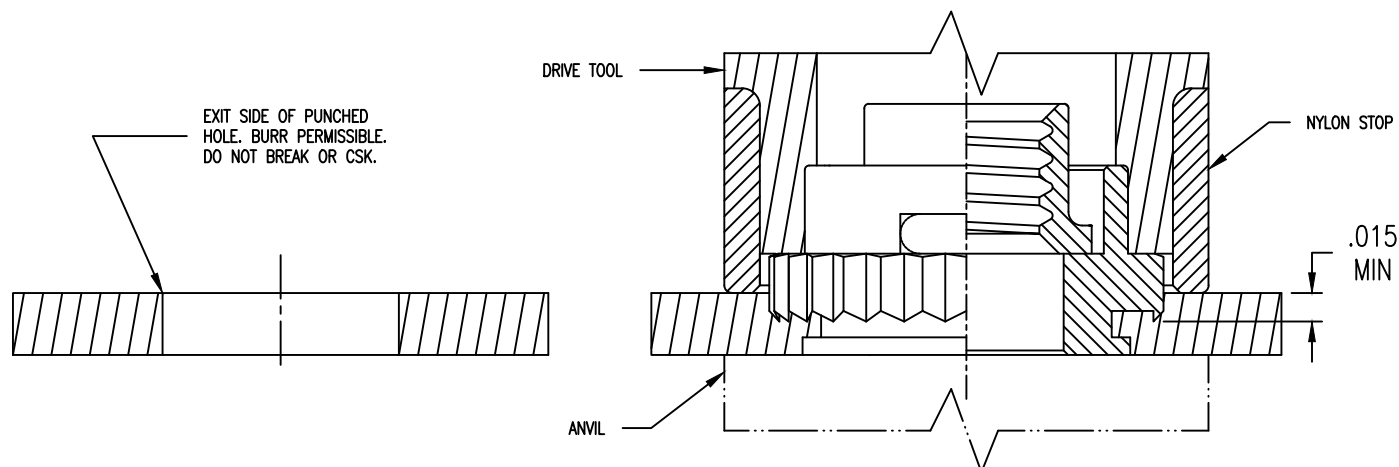

FIGURE 2 - HOLE PREPARATION AND INSTALLATION
- C.) USING A DRIVE TOOL AND ANVIL AS SHOWN IN FIGURE 2, APPLY SUFFICIENT FORCE TO CAUSE A .015 INCH MINIMUM PENETRATION INTO THE STRUCTURE FOR A FULL 360°. TOOL SHOWN IS A DEPTH-STOP TYPE TOOL WHICH INSTALLS NUT TO PROPER DEPTH WHEN NYLON STOP BOTTOMS AGAINST SHEET SURFACE.